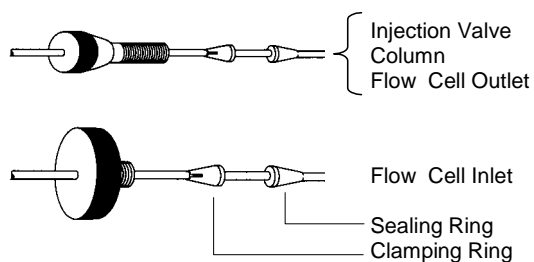

Fig. 4 *DYNASEAL Capillary connections*
2. Push the bushing, the clamping ring, and the sealing ring onto the capillary. Please take care on the sequence and orientation of fittings, see Fig. 4 „DYNASEAL Capillary connections“.
5. Connect the flow cell outlet (6) using a capillary or teflon tube (ID > 0,5 mm) to a waste bottle.